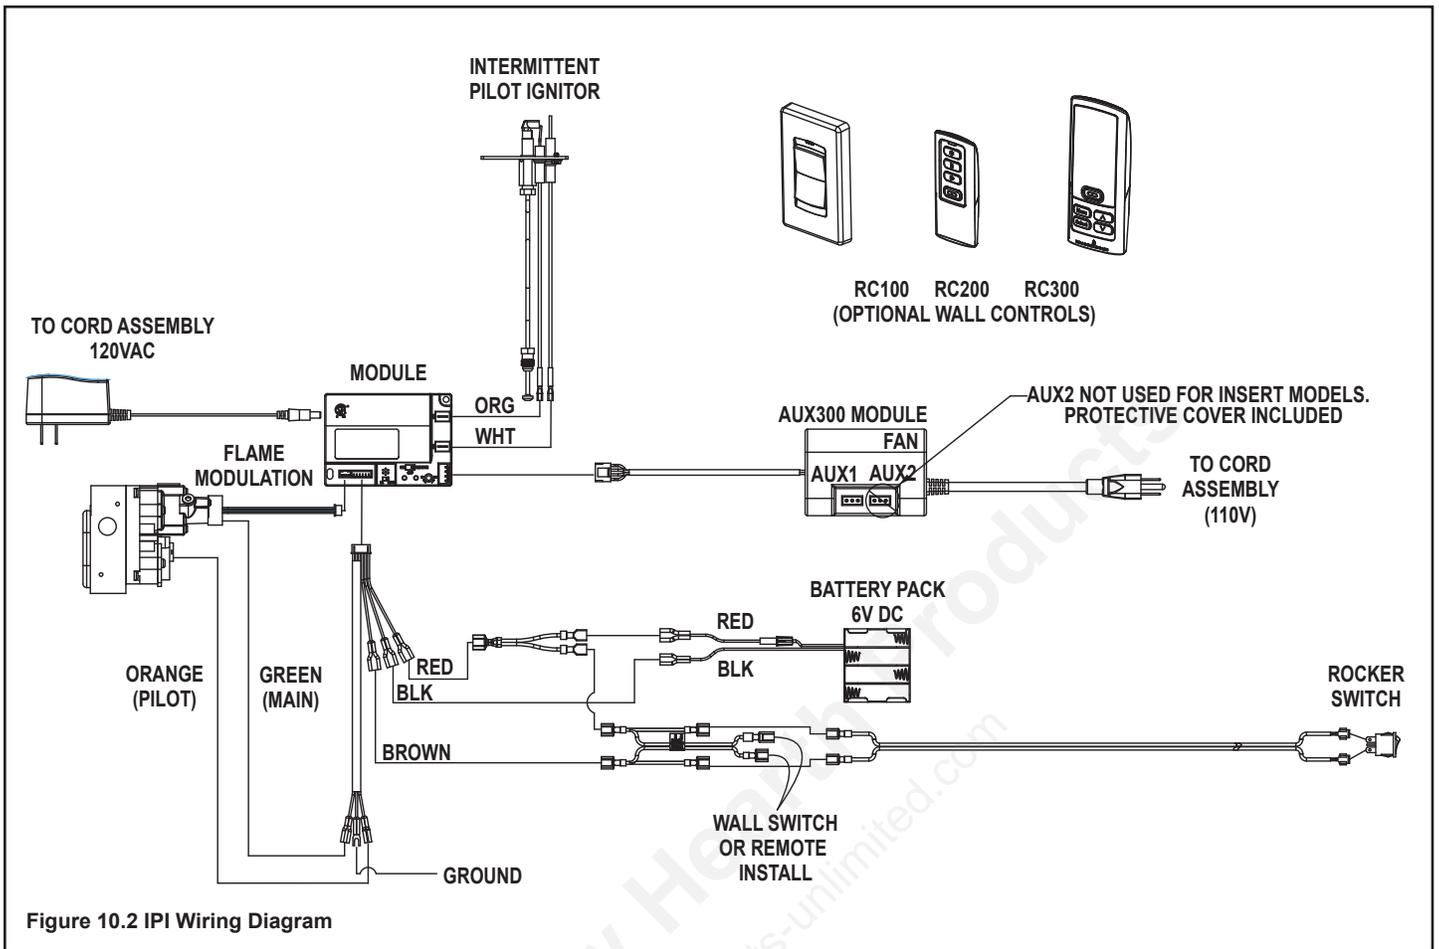

Figure 10.2 IPI Wiring Diagram
- This appliance comes standard with a 120 VAC cord assembly which has a female plug in to accommodate all control options and accessories. See Figure 10.2. This is required for use of optional accessories (standing pilot ignition) or proper operation of the appliance (IntelliFire Ignition). An outlet box may be installed in a bottom back corner of the existing solid fuel masonry or factory built fireplace to plug in the cord assembly, or the supplied power cord may be routed out onto the hearth to a nearby outlet.
- Refer to Figure 10.2, IPI Wiring Diagram.